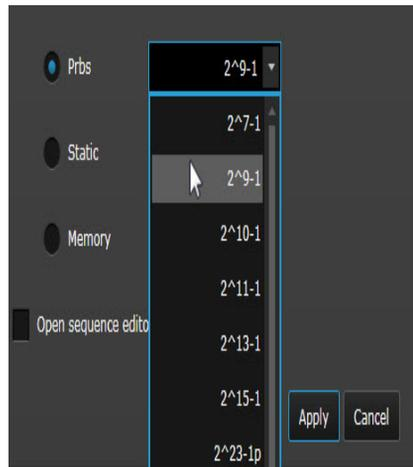

Figure 38 Select Polynomial
- b In the **Block Data** properties, select **29- 1** as the **Polynomial** as shown in Figure 38 on page -85.